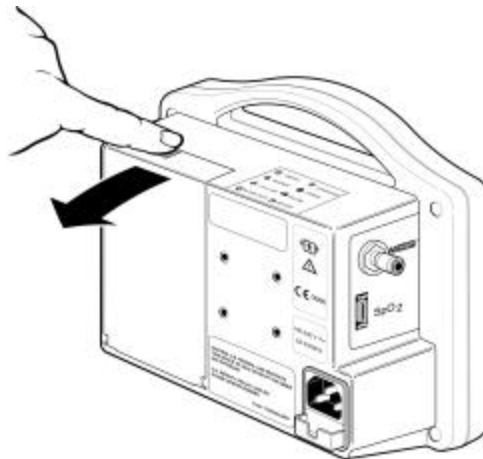

Figure 13: Removing the Battery
- 3) Carefully remove the battery pack from the rear panel of the monitor. Refer to Figure 13.